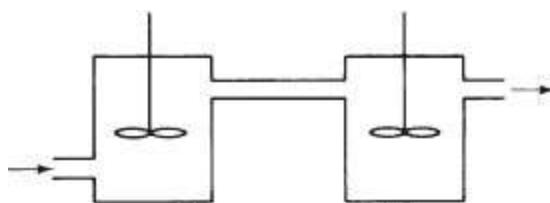

Figure P17.12
17.12. Suppose that you have two tanks in series, as diagrammed in Figure P17.12. The volume of liquid in each tank remains constant because of the design of the overflow lines. Assume